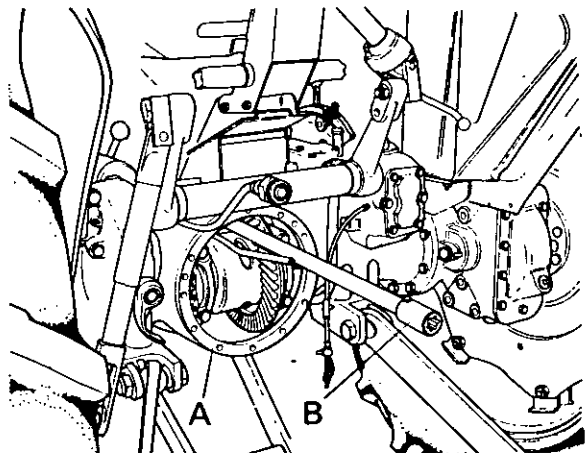

Figure 8.
7. After removing sensing unit, remove the twelve bolts attaching PTO case to axle case then remove PTO unit so that cardan shaft can be withdrawn clear of clutch. (Fig. 8.)
13. Remove sensing unit from PTO case, then remove PTO unit from rear axle case. Withdraw cardan shaft: if coupling is not bolted to cardan shaft, insert a bolt through hole in shaft end so the shaft can be levered out until it is clear of clutch. (Fig. 8.)